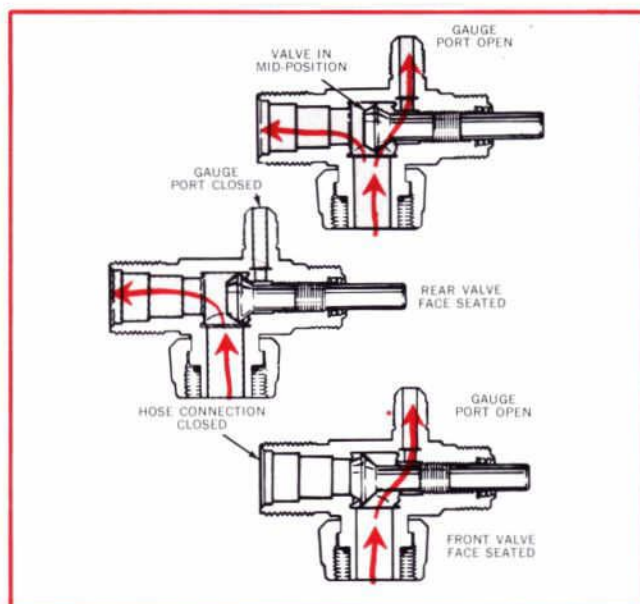

Figure 24—Cutaway view of the THREE Service Valve Positions
Each of these valves has three (3) positions. See figure 24. When the valve stem is rotated fully inward (clockwise) it is in the shut-off position with the front valve face seated and the refrigeration system hose passage closed. This isolates the compressor from the balance of the system.